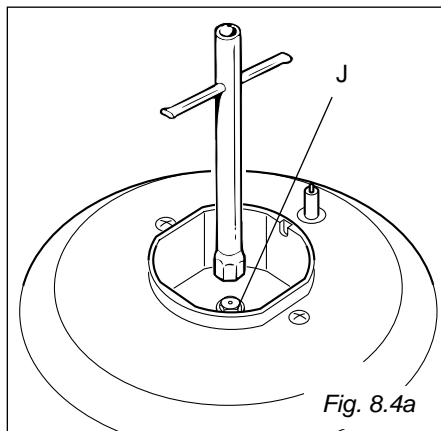

Fig. 8.4a
- Using a wrench, substitute the nozzle injectors “J” (fig. 8.4a, 8.4b) with those most suitable for the kind of gas for which it is to be used.